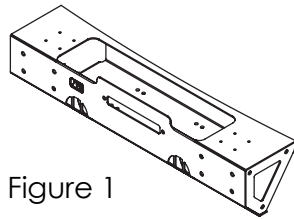

Figure 1
1. If installing as part of a new installation, place center section of bumper onto frame rails, but do not yet attach. If RRC Hoop is being added to an existing installation, remove existing Hoop and D-Rings from Center Section. Center Section should be sitting on the frame rails, but not attached (Figure 1). Place RRC Hoop over Center Section (Figure 2) and align 8 holes on top and 8 holes on front (Figure 3).